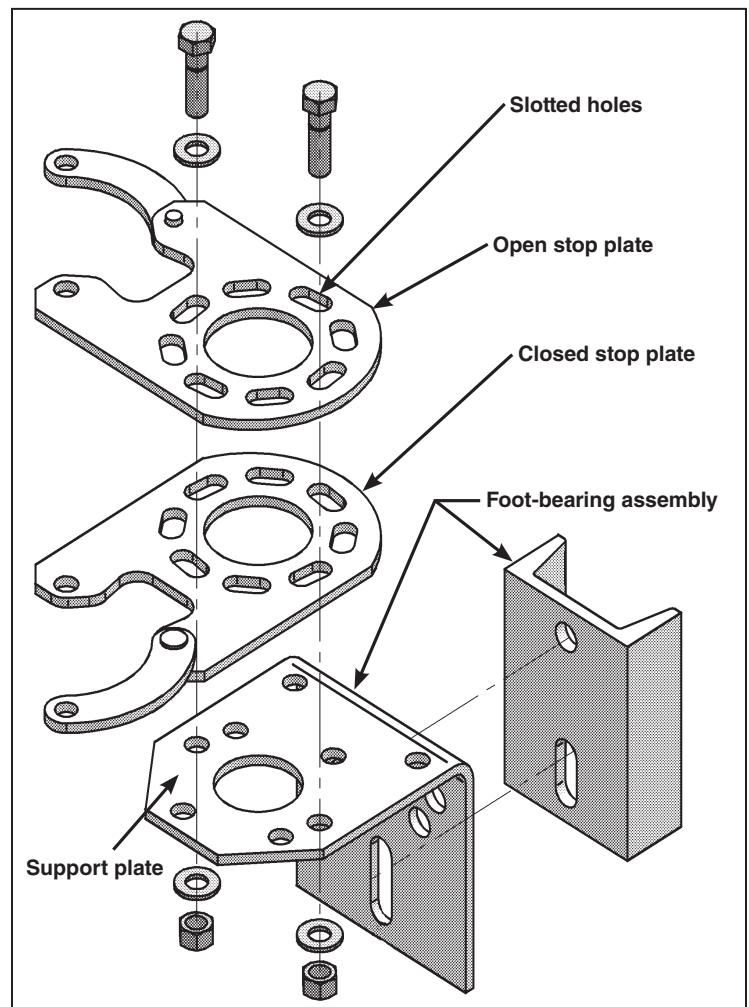

Figure 35. An exploded view of the stop plates and foot-bearing assembly.
STEP 35. Loosen the bolts that secure the adjustable stop plates to the foot-bearing support plate. See Figure 35. Place the switch in the fully **Open** position and adjust the open-position stop plate so the handle, when lowered, fits into the open-position slot. On the support-plate, mark the location of the open-position stop plate.
- (a) Loosen the hardware securing the closed stop plate. See Figure 35.